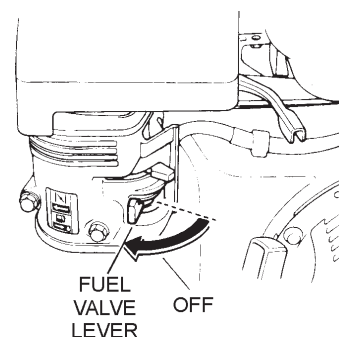

Figure 17. Fuel Valve Lever (OFF)
3. Place the **fuel shut-off lever** (Figure 17) in the **OFF** position.